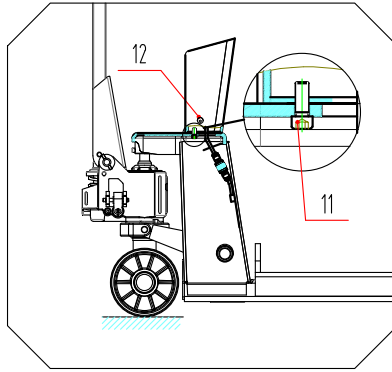

Fig. 6
- 2.2.1 See Fig. 6, place the scale frame in the direction and align it with the fixing hole.
- 2.2.2 Fix the screw 11 to the instrument box assembly as shown in Fig. 6.
- 2.3.1 The charging interface is located on the right side of the instrument box (12 of Fig. 6), which can be charged by connecting with the external charging line.